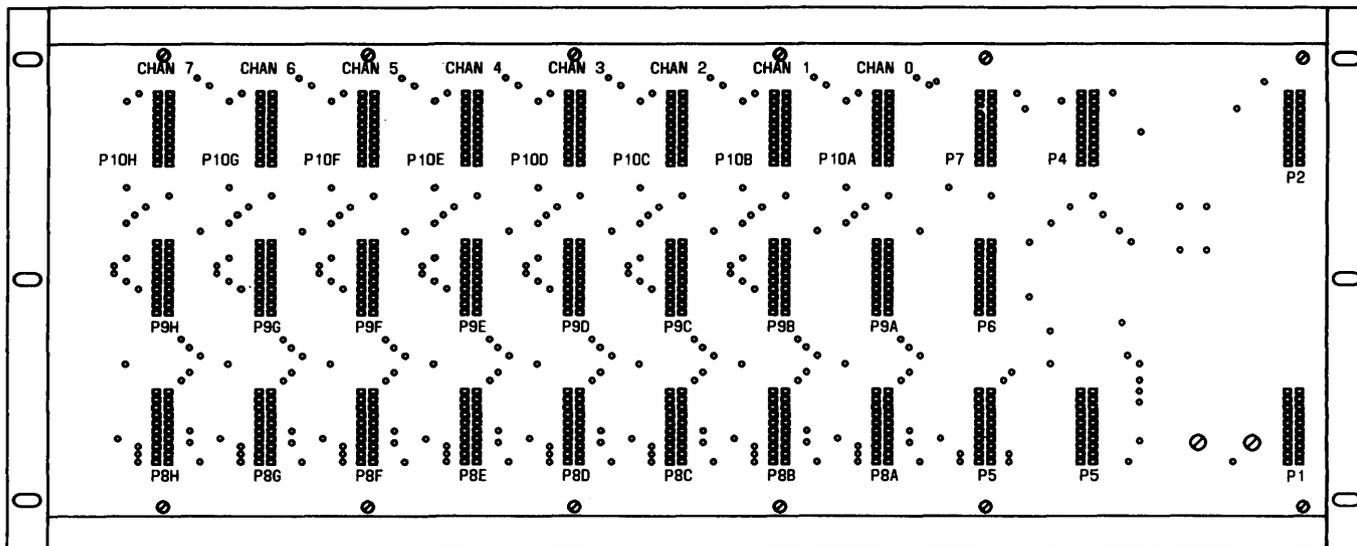

Fig. 6— 13A Printed Wiring Backplane
3.01 Interconnection of circuit packs to input/output (I/O) terminals and between circuit packs is accomplished via a printed wiring backplane (Fig. 6). Connection from the 13A Announcement System to interconnecting circuits is via a field of
- (1) Operate POWER switch to OFF on the UD1 circuit pack. POWER OFF LED lights.
- (2) Install message module.
- (3) Operate POWER switch to ON on the UD1 circuit pack. POWER OFF LED extinguishes.
7.11 The channel output level is measured on the T1 and R1 pins located on the 13A backplane (Fig. 6). The T1 and R1 pins are clearly numbered for each channel. The output is adjusted by rotating the OUTPUT LEVEL potentiometer located on each channel.